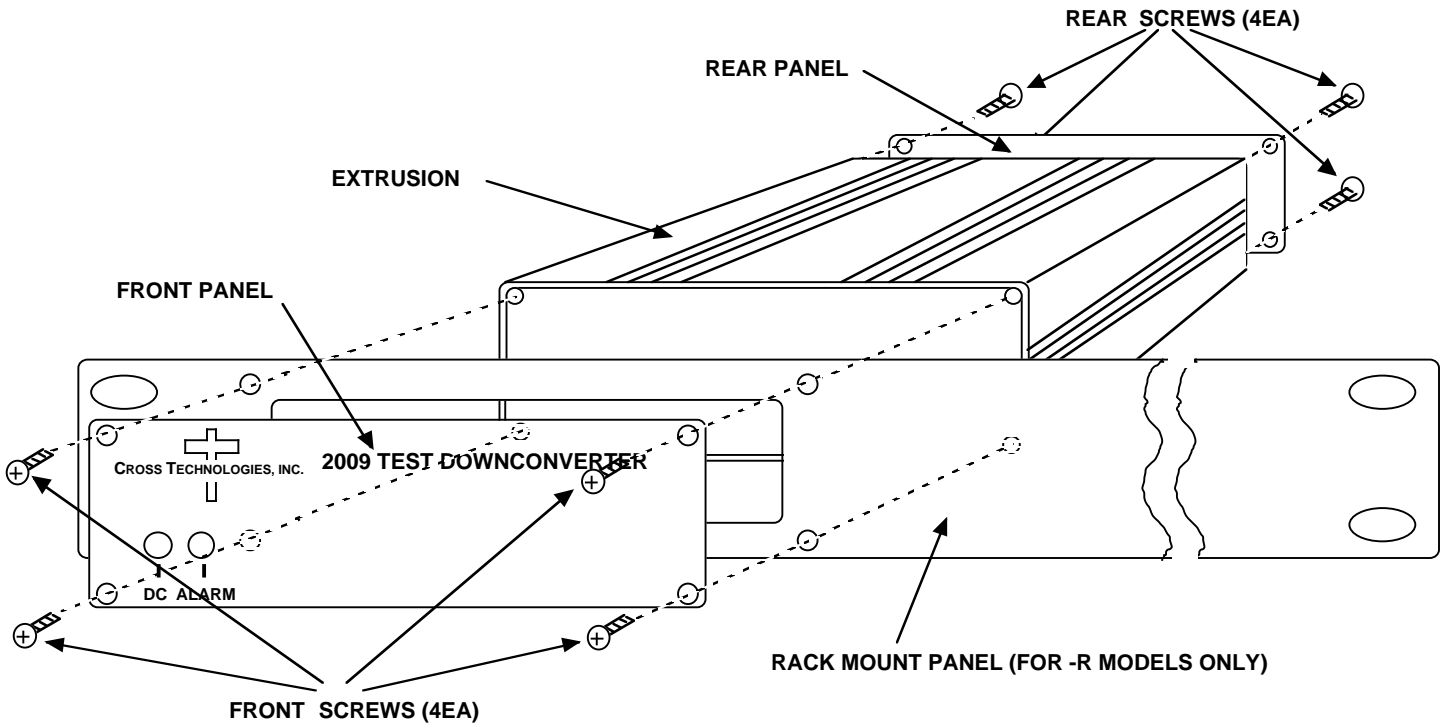

FIGURE 2.1 Model 2009-38 Assembly (-R option shown)
2.1 Mechanical - The 2009-38 is packaged in an aluminum extrusion. The **-R option** is mounted on a 1 3/4" X 19" panel that can be mounted to a rack using the 4 holes at the ends (See Figure 2.1).
- 2.) Remove four (4) **rear panel screws** (see Figure 2.1).
- 5.) Install four (4) **rear panel screws**.